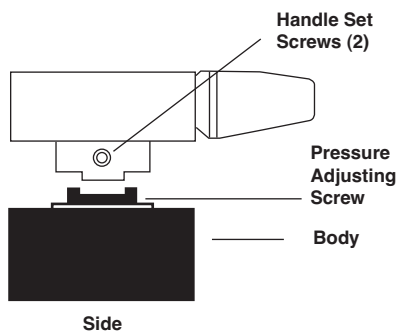

Fig. 5. Valve handle acting as wrench to adjust valve pressure adjusting screw.
Replace the handle and tighten the two set screws on the two flats of the shaft. Confirm that the handle protrusions are out of the slots in the body before tightening the set screws. This step is important. If the handle engages the pressure adjusting screw the shaft will not rotate between LOAD and INJECT. See Figure 5.
- Replace the handle and tighten the two set screws on the two flats of the shaft. Confirm that the handle protrusions are out of the slots in the body before tightening the set screws. This step is important. If the handle engages the pressure adjusting screw the shaft will not rotate between LOAD and INJECT. See Figure 5.